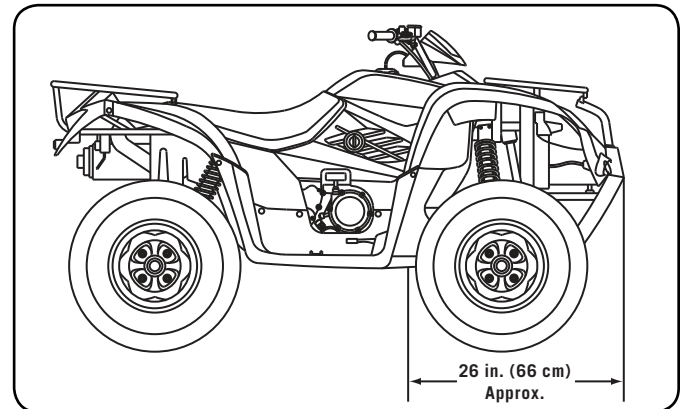
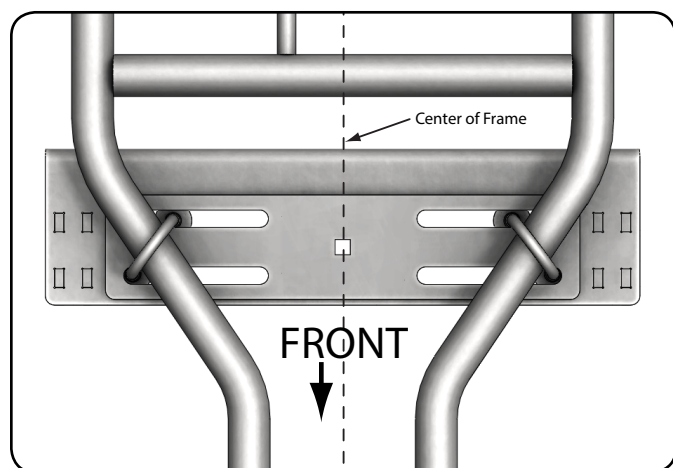

Figure 16 - Approximate Mount Distance
Figure 17 - Round Tube Mount Placements: Top View
2. The approximate distance that tab holes can be from the front of the machine is 26 in. (66 cm) as shown in Figure 16. Every machine can vary because of ATV front contour.
1. Place the hybrid lower mount plate up to the frame at the location behind the front tires where the frame widens out, as shown in Figure 17. Determine the location allowing the mount to be centered, back as far on the frame as possible and the push tubes to be attached. Keep the mount holes within the approximate distance from the front of your machine (see Figure 16).
4. Determine the location allowing the mount to be centered, back as far on the frame as possible and the push tubes to be attached. Keep the mount holes within the approximate distance (26 in. {66 mm}) from the front of your machine. See page 8, Figure 16.
5. Loosely install the upper mount plate (2) and lower mount plate (1) using the rubber spacers (4),  $\frac{3}{8}$  in. (9.5 mm) bolts (5.4),  $\frac{3}{8}$  in. (9.5 mm) carriage bolt (5.5), nuts (5.2) and washers (5.3) provided with your mount.
3. Determine the location allowing the mount to be centered, back as far on the frame as possible and the push tubes to be attached. Keep the mount holes within the approximate distance (26 in. {66 cm}) from the front of your machine. See page 8, Figure 16.